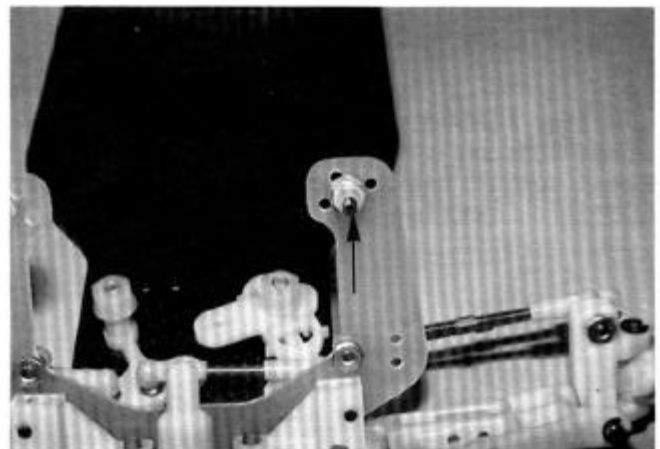

**FIG. 127**
□ **FIG. 127 & 128**—Now mount the bottom end of the shock in the outside hole, as indicated in Fig. 128. Make sure the flat area of the ball is against the arm, as shown in Fig. 127. You can tighten this screw securely. Mount the right hand shock.